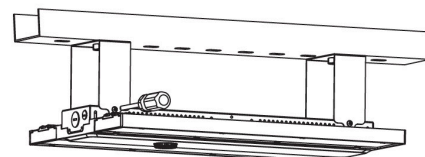

Figure 5
- Step 2. Assemble the fixture on the bracket and fix it with screws (Figure 5);